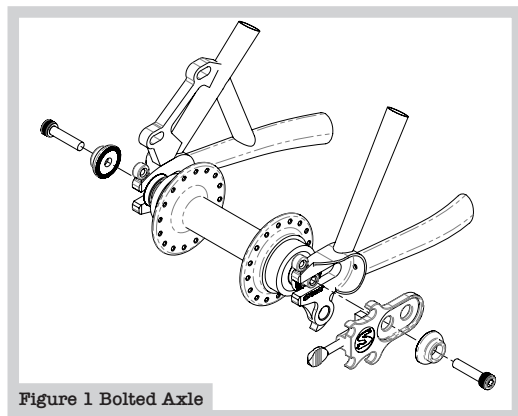
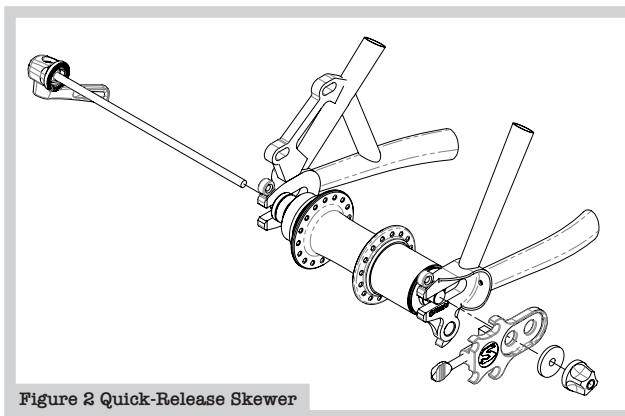

Figure 1 Bolted Axle
Figure 2 Quick-Release Skewer
1. With the rear wheel in the frame, remove the axle nuts (fig. 1) or quick-release skewer (fig. 2) from the rear wheel.